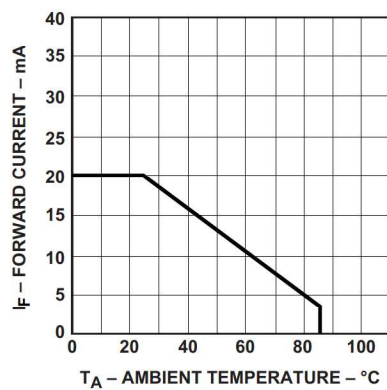

Figure 4. Maximum DC Current vs. Ambient Temperature.
1. Derate linearly as shown in Figure 4 for temperatures above  $25^\circ\text{C}$ .